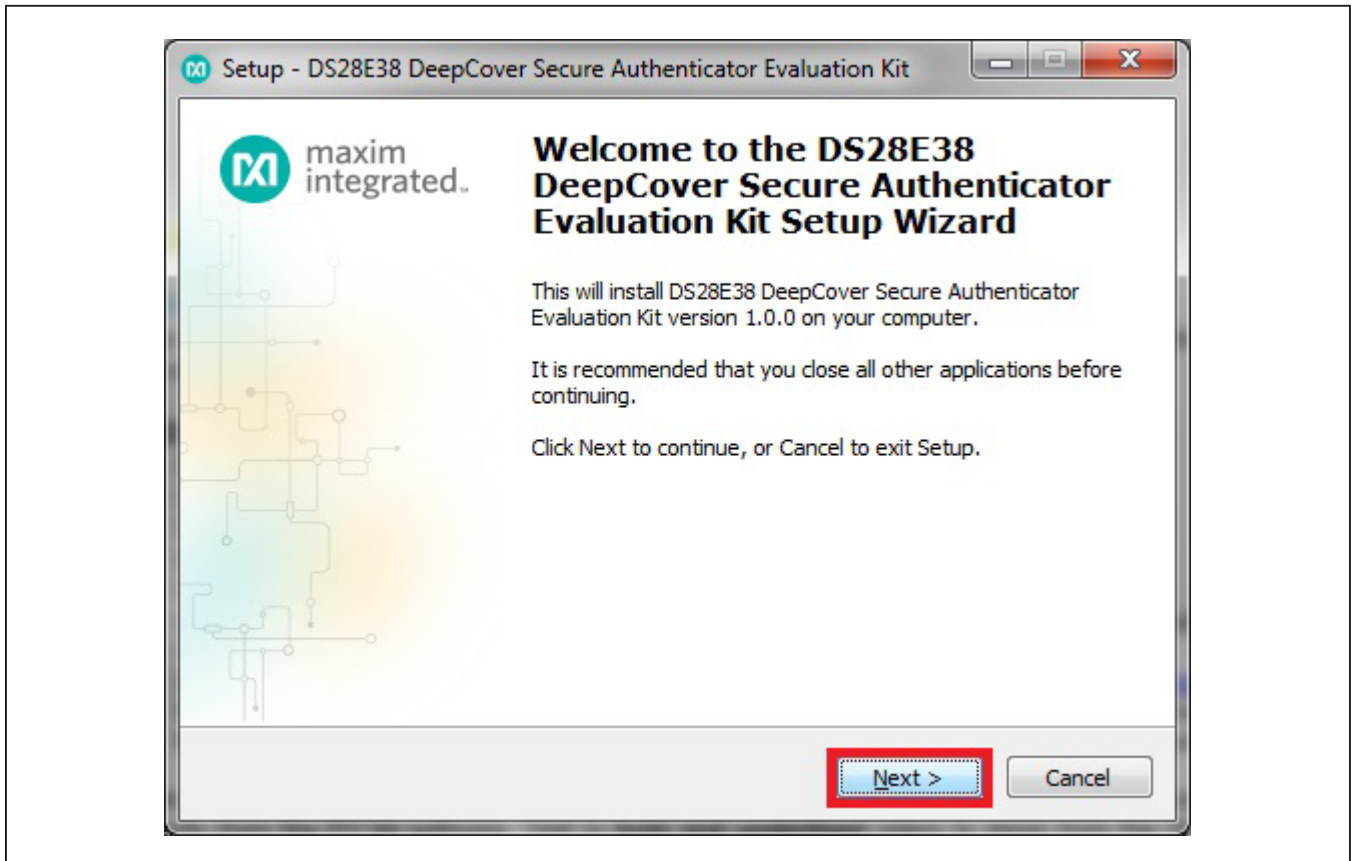

Figure 2. DS28E38 Setup Wizard
3) The setup wizard opens; click on **Next**, as shown in Figure 2.